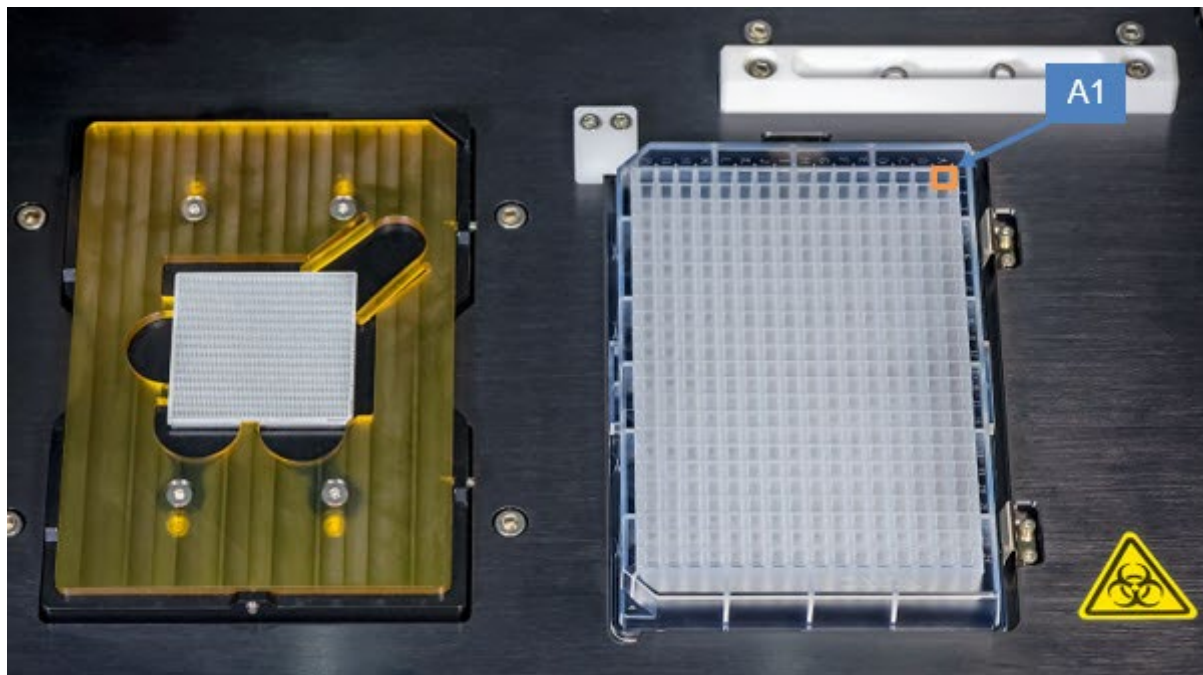

Figure 67. Sample source plate in the plate nest.
1. Place the sample source plate on the plate nest with the A1 position in the top-right corner (Figure 67). Press down on the plate to ensure it is sitting flat against the platform.